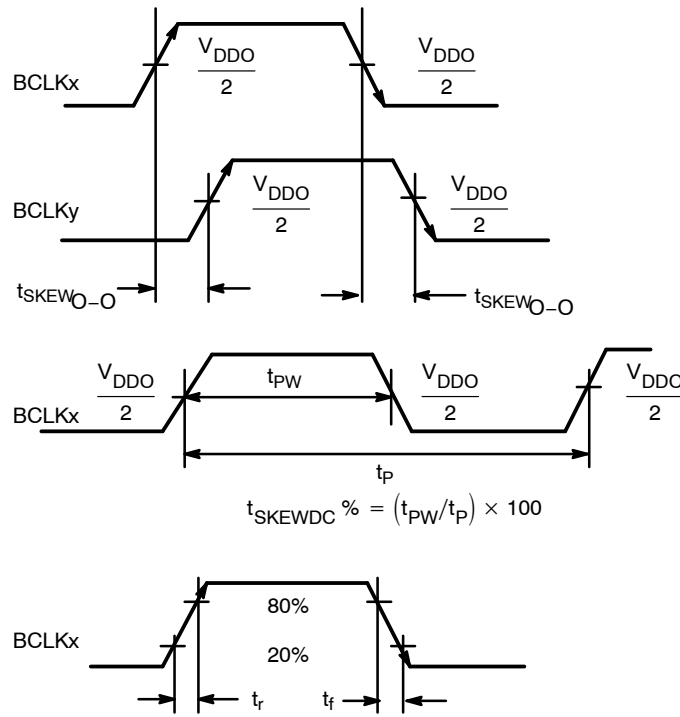

Figure 4. AC Reference Measurement
5. Crystal inputs $\leq F_{\max}$. Outputs loaded with $50\ \Omega$ to $V_{DDO}/2$. CLOCK (LVCMOS levels at XTAL1 input) 50% duty cycle. See Figures 4 and 7. See APPLICATION INFORMATION; Crystal Input Interface for CL loading.
5. Crystal inputs ≤ F_{max}. Outputs loaded with 50 Ω to V_{DDO}/2. CLOCK (LVCMOS levels at XTAL1 input) 50% duty cycle. See Figures 4 and 7. See APPLICATION INFORMATION; Crystal Input Interface for CL loading.